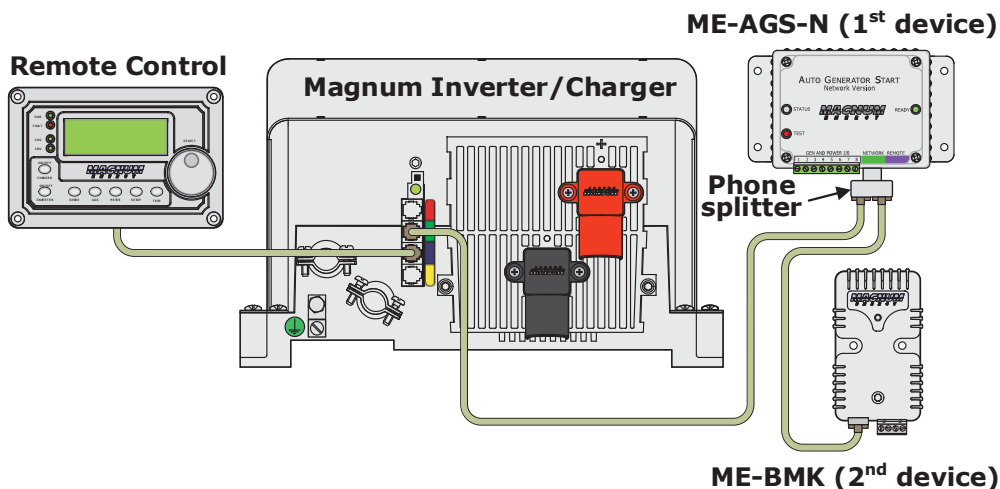

Figure 2-8, Multiple Network Devices – Daisy Chain Configuration
- **Daisy Chain Configuration** – Network devices are linked in a series (Figure 2-8). If using this configuration, the ME-AGS-N must be the first device connected to the inverter’s Magnum Net or Network port—followed by the second network device.